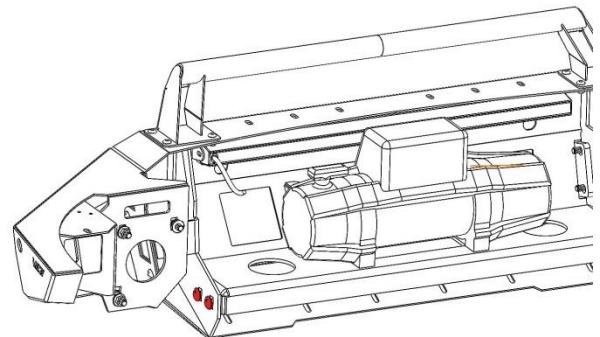

Figure 7
27. Install the winch and winch plate assembly onto the bumper by inserting it onto the rear of the bumper and installing the fairlead. Loosely fit the 2x carriage bolts on either side, as there is an additional bracket which will install into these once the bumper is installed. See **Figure 7**.